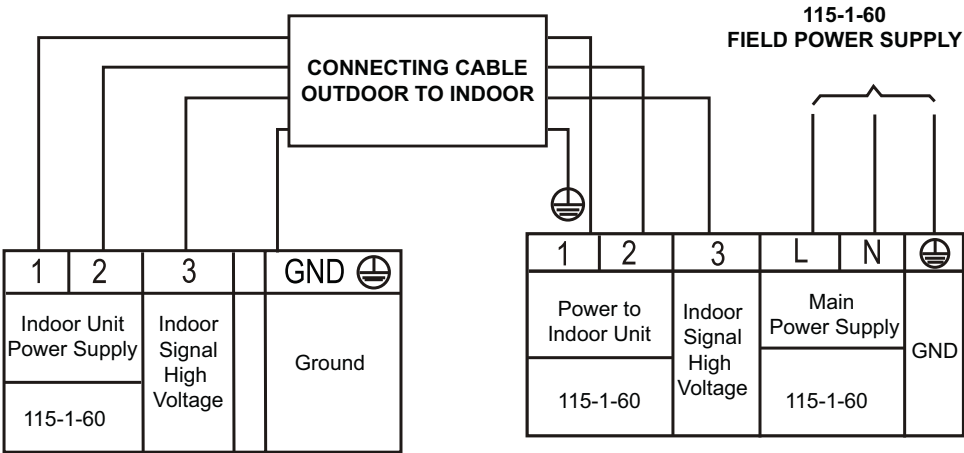

Fig. 3 —Connection Diagram (115V)
- 2. All connections between the indoor and outdoor units must adhere to the connections shown in figures 3 and 4. The connections are polarity sensitive and improper wiring will result in a fault code.